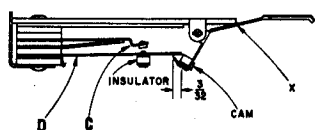

Figure 10.
Adjustment of the coin switch is shown in Figures 10 and 11 and the following steps A to H:
- A. Adjust the 5-, 10- and 25-cent coin levers so that they are parallel with the bottom edge of the slug rejector when bearing against the switch bracket at X (Figure 10).